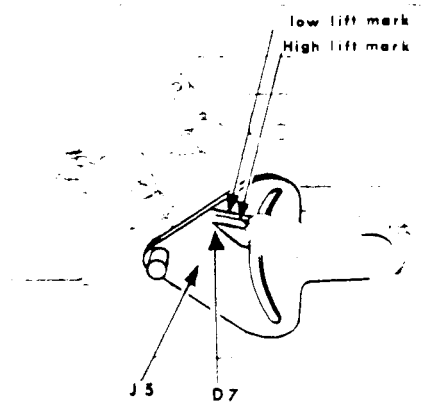
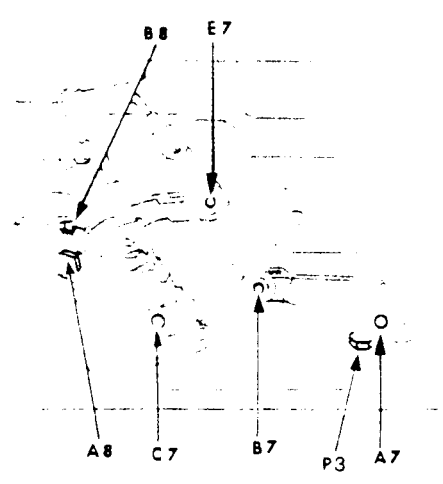
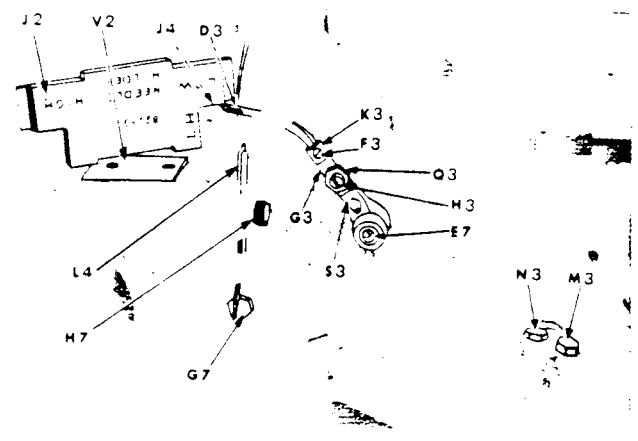

Fig. 39. To Position Gauge 165253.
Fig. 40. To Position Gauge 165253 - Cont'd.
Fig. 41. Adjustments.
Install gauge J5 (Fig.39, Page 21) with threaded pin in looper (right hand) driving shaft hole (A7-Fig.40) and the (2) remaining pins in holes B7 and C7 (Fig. 40).
When looper or spreader carrier is at its highest position, indicator (D7-Fig. 39) should be at the upper line on gauge for low-lift machines, (Nos. 460/12, 460 13, 460/14, 460/16, 460/20, 460/22). For high-lift machines, (Nos. 460/15 and 460 21) looper or spreader carrier is at its highest position when indicator D7 is at lower line on gauge.
To move right looper towards right, first loosen set screw N3 Fig. 41 two or three turns, then loosen clamping screw M3 Fig. 41 just enough to allow movement of looper assembly.
To move right looper towards left, first loosen set screw P3, Fig. 40 two or three turns.
When correct setting is obtained securely tighten clamping screw M3 Fig. 41, and then carefully tighten the set screws N3 Fig. 41 and P3 Fig. 40 an equal amount so that looper position is not disturbed.
Note: These allowances are possible provided the right hand looper carrier connecting link hinge pin E7 Fig. 41 is in contact with machine frame wearing plate. After each adjustment is made to eliminate looper side-wise play, the hinge pin set screw must be securely tightened with Allen Key No. 81440.
Place gauge J2 firmly upon throat plate seat V2 with end marked "LOW" toward needle, as shown in Fig.41, Page 21.
Note: When installing a right looper (or spreader), loosen nut Q3, Fig. 41 and turn screw H3 anti-clockwise to align the screwdriver slot in head of screw H3 with centre-line of looper carrier S3, as shown in Fig. 41. Then loosen screw F3. Place collar K3 on looper shank and insert right looper in looper holder G3, as shown in Fig. 41.
Loosen screw F3 and nut Q3, Fig. 41
Right looper (or spreader) D3 should pass just behind left looper head and in front of needle; brushing lightly on needle. Additional adjustment for left to right position behind left looper head is provided by the hexagon head screw G7 Fig. 41.
Loosen screw H7 Fig. 41 and move Knife (stationary) L4 Fig. 41 upwards. Loosen hexagon head screw G7 and move screw up or down in the slot as required. Re-check looper (or spreader) settings and carefully reposition knife L4 and re-tighten screws H7 and G7, Fig. 41.
This setting can be secured by loosening nut A8 Fig. 41 and carefully turning in position screw B8 to make slight contact with the hexagon head screw G7, Fig. 41 Retighten nut A8, Fig. 40.
Loosen nut Q3, Fig. 41.